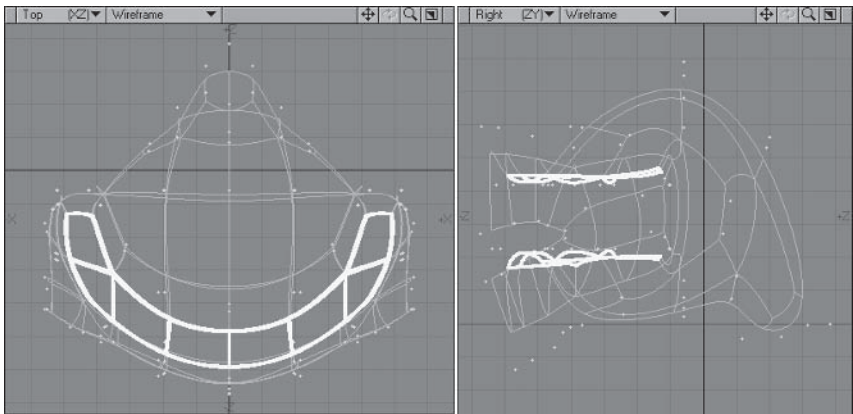

Figure 5.3-103. Adjusting the gums.
3. Select the leading edge of the top and bottom gums again and adjust the points to match Figure 5.3-103.